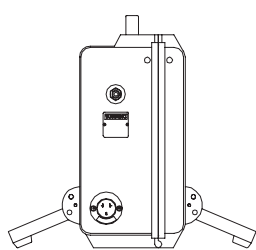

Figure 1
3. Position each leg assembly against the case as shown in Figures 1, 2 and 4 with legs down and the bumpers on the legs touching the surface. Note the location of the legs to the case in each figure.
4. Close the cover and position legs as shown in Figures 1, 2, and 4 for upright stability.